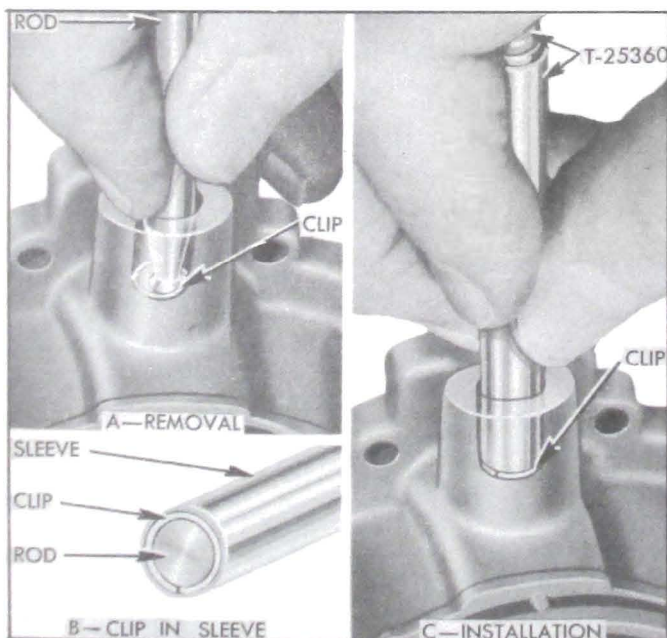

Figure 3-72—Removing and Installing Retainer Clip
then use rod inside sleeve to push clip into place. See figure 3-72.
Replace pump strainer if it is damaged or clogged so that it cannot be thoroughly cleaned. Use Retainer Clip Replacer T-25360 as previously explained but use shouldered end of sleeve for installing retainer clip. See figure 3-72.
10. Place check valve ball in bottom of pump cylinder and install retainer clip, using Replacer T-25360 (fig. 3-72) or long nosed pliers. Inner end of clip must point down towards ball. See figure 3-68.